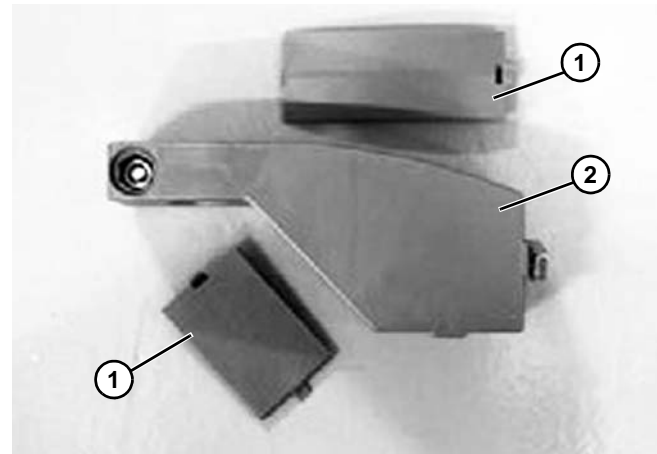

Figure 99
1. Open the upper and lower caps (Figure 99, item 1) on FGRB - 40 guide rail bracket (Figure 99, item 2), and install T-bolt.